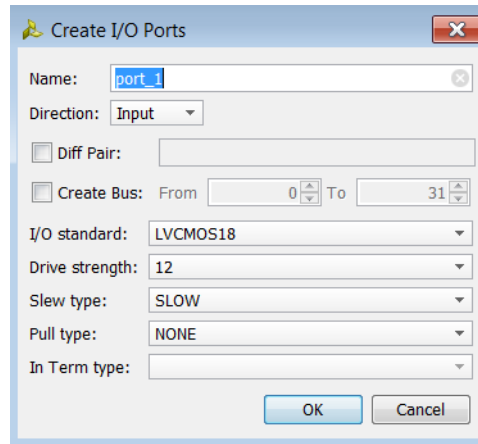

Figure 3-17: Create I/O Ports Dialog Box
2. In the Create I/O Ports dialog box (Figure 3-17), edit the following options, and click **OK**: